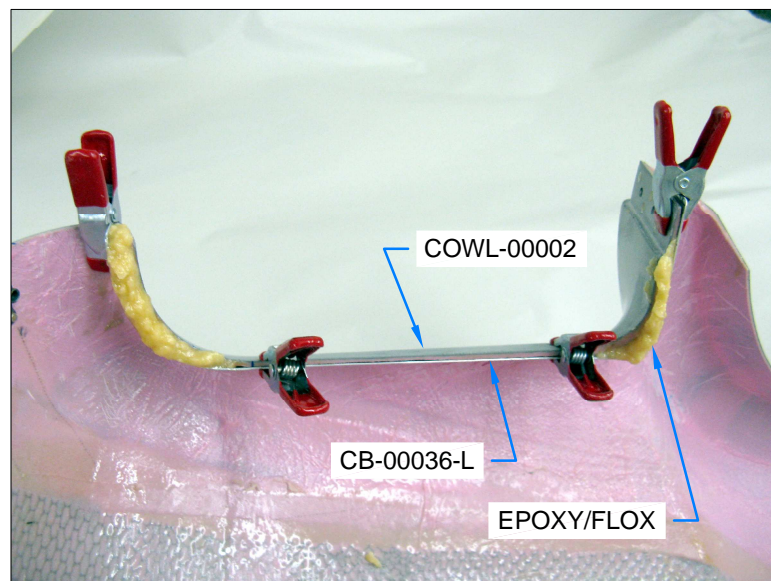
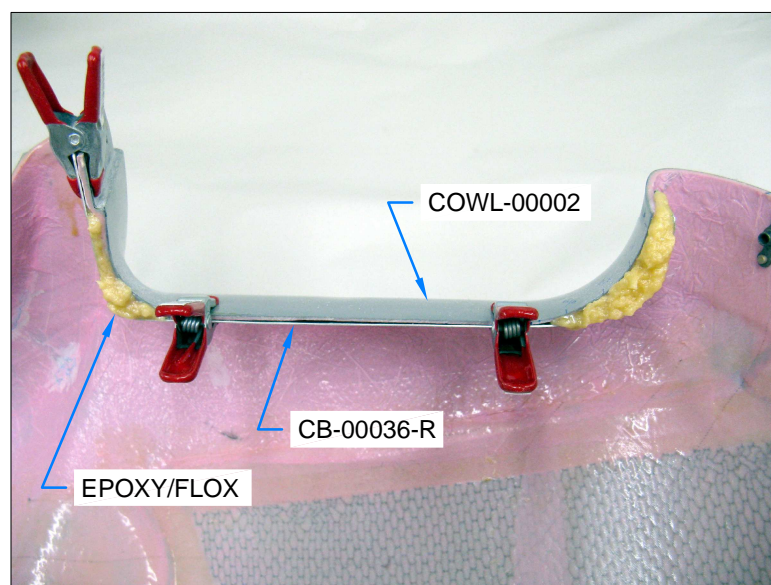

FIGURE 1: FILL GAPS - LEFT
FIGURE 2: FILL GAPS - RIGHT
Step 3: Fill the gaps between the bottom cowl and the CB-00036-L & -R Clamping Strips with epoxy/flox mixture. Over-fill the gaps to ensure that any voids are eliminated. See Figure 1 and Figure 2.